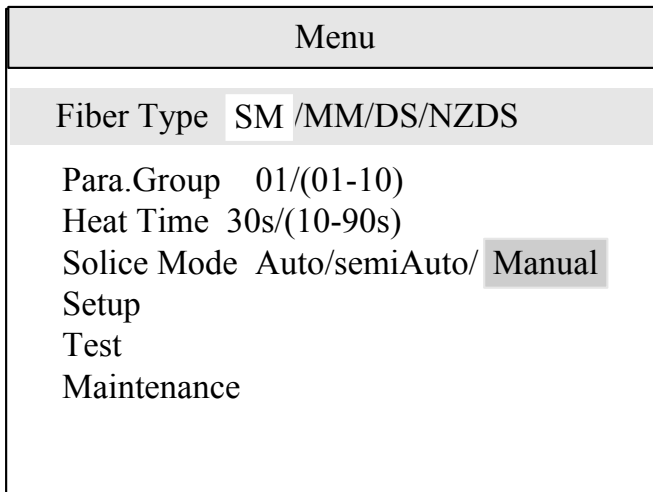

Figure 7-1
In the splice mode, press the  key and the instrument will enter the menu mode. The screen displays the main menu as figure 7-1.
a) As the screen in figure 7-1, move the cursor to Fiber type option